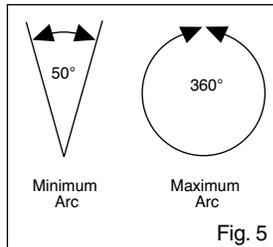

Fig. 5
3. Adjust to any arc between 50° and 360° (Fig. 5).